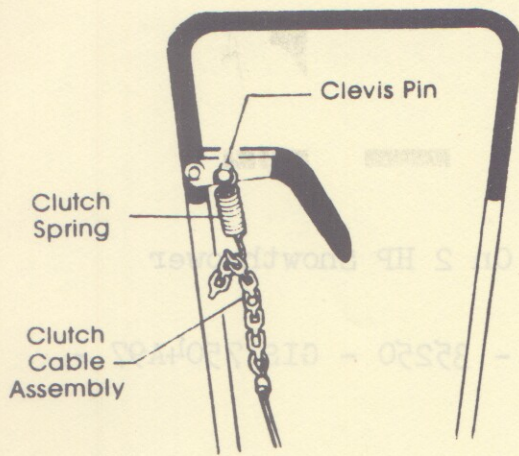

FIG. 1
1. Improper clutch cable tension. The cable should be slack but not sagging. Change adjustment by hooking 2nd - 3rd or 4th link of chain to spring to obtain proper tension (refer fig. 1).